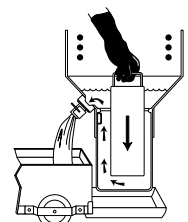

FIGURE 19
6.  **CAUTION:** Wearing safety gloves, with drain valve still open, use displacement tool to force enough cooking oil up and out of drain valve to allow safe removal of collector (Figure 19).